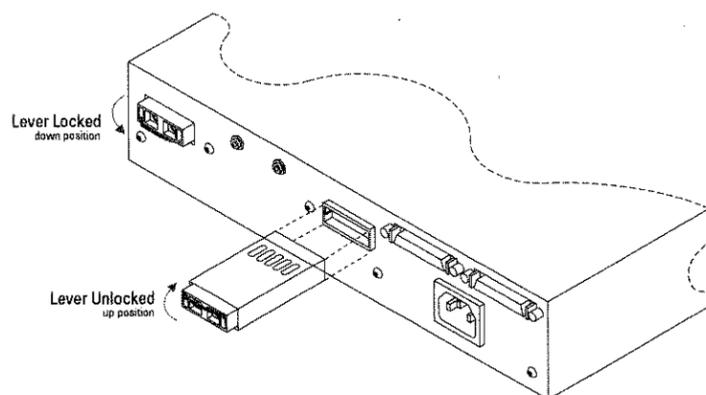

Figure 3-1. Hot-swappable GBIC transceivers in the DominoGigabit analyzer
The standard DominoGigabit® DA-380 analyzer is shipped with two multimode, Gigabit Interface Converter (GBIC) transceivers. You can optionally order the DominoGigabit analyzer with single mode, GBIC transceivers. Both types of GBIC transceivers are “hot-swappable” modules, which means that you can remove and install them (Figure 3-1) while the DominoGigabit analyzer is powered on and connected to the network. The transceiver ports for the transmitters and receivers for both single mode and multimode are duplex SC connectors.
2. Lift the lever up to unlock the GBIC module and pull the transceiver out of the slot while holding the lever (as shown in the middle of Figure 3-1).
See Figure 3-1 for an illustration of an installed GBIC transceiver with the locking mechanism in place, and another GBIC transceiver unlocked and removed.